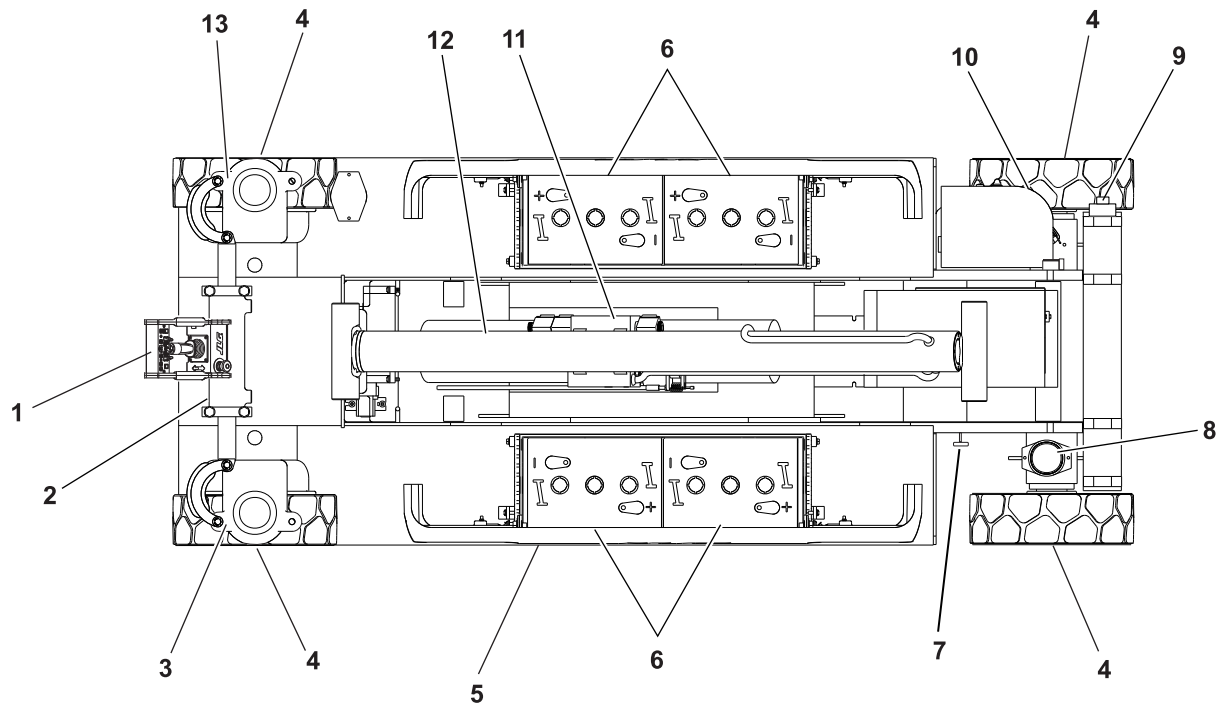

Figure 2-1. Daily Walk-Around Inspection - Sheet 1
5. **“Walk-Around” Inspection** – Refer to Figure 2-1